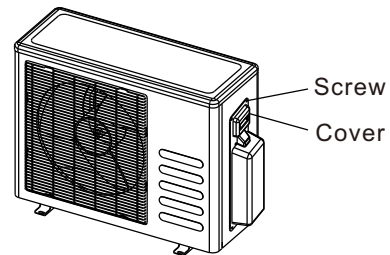

Fig.14
- Remove the electrical control board cover from the outdoor unit by loosening the screw as shown in Fig.14